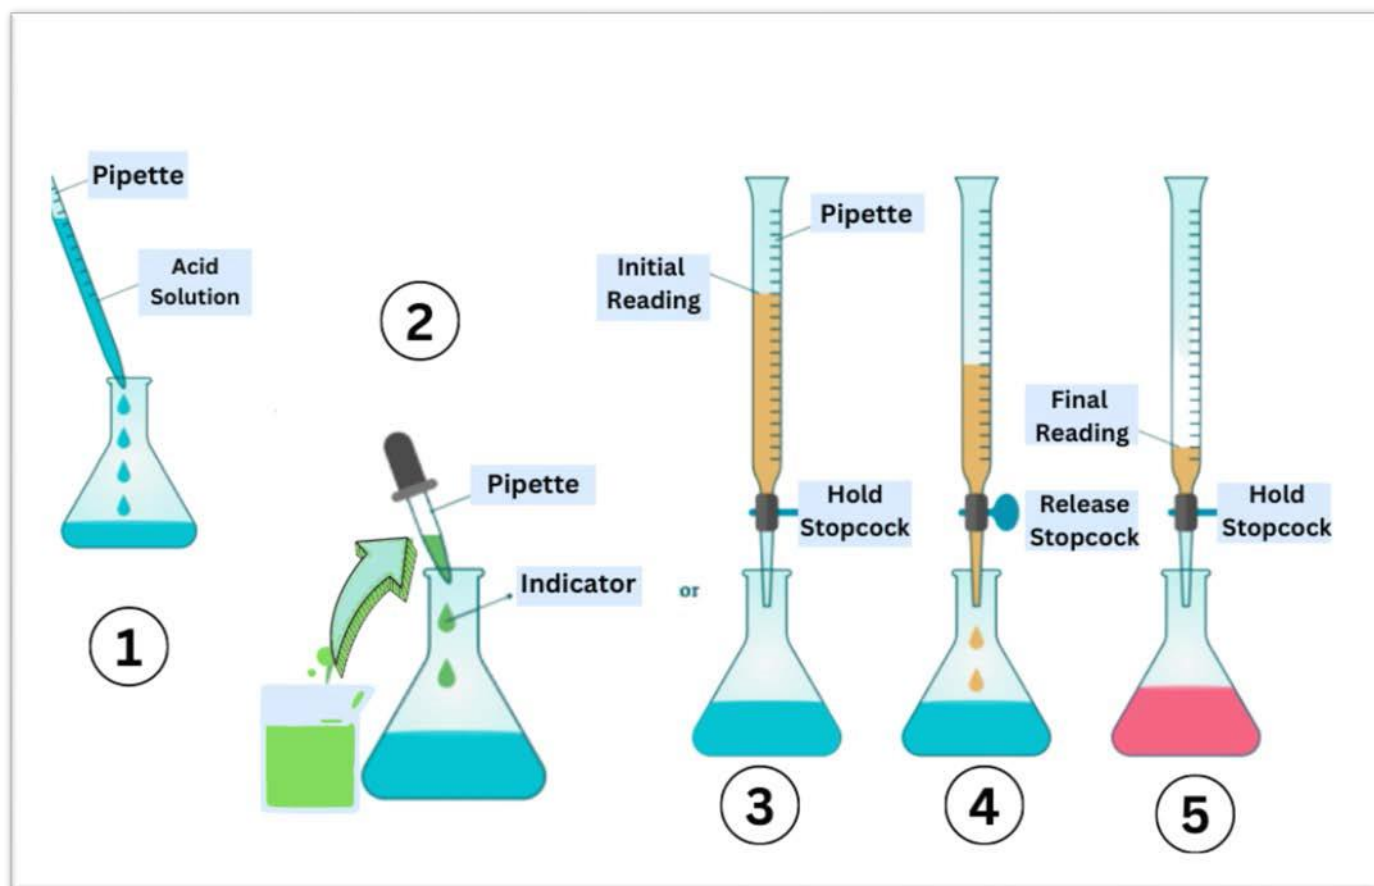

Figure 1 : Acid-base titration
10. Place the erlenmeyer flask under the burette (*figure 1*)
6. Place the erlenmeyer flask under the burette (*figure 1*)
16. Place the erlenmeyer flask under the burette (*figure 1*)